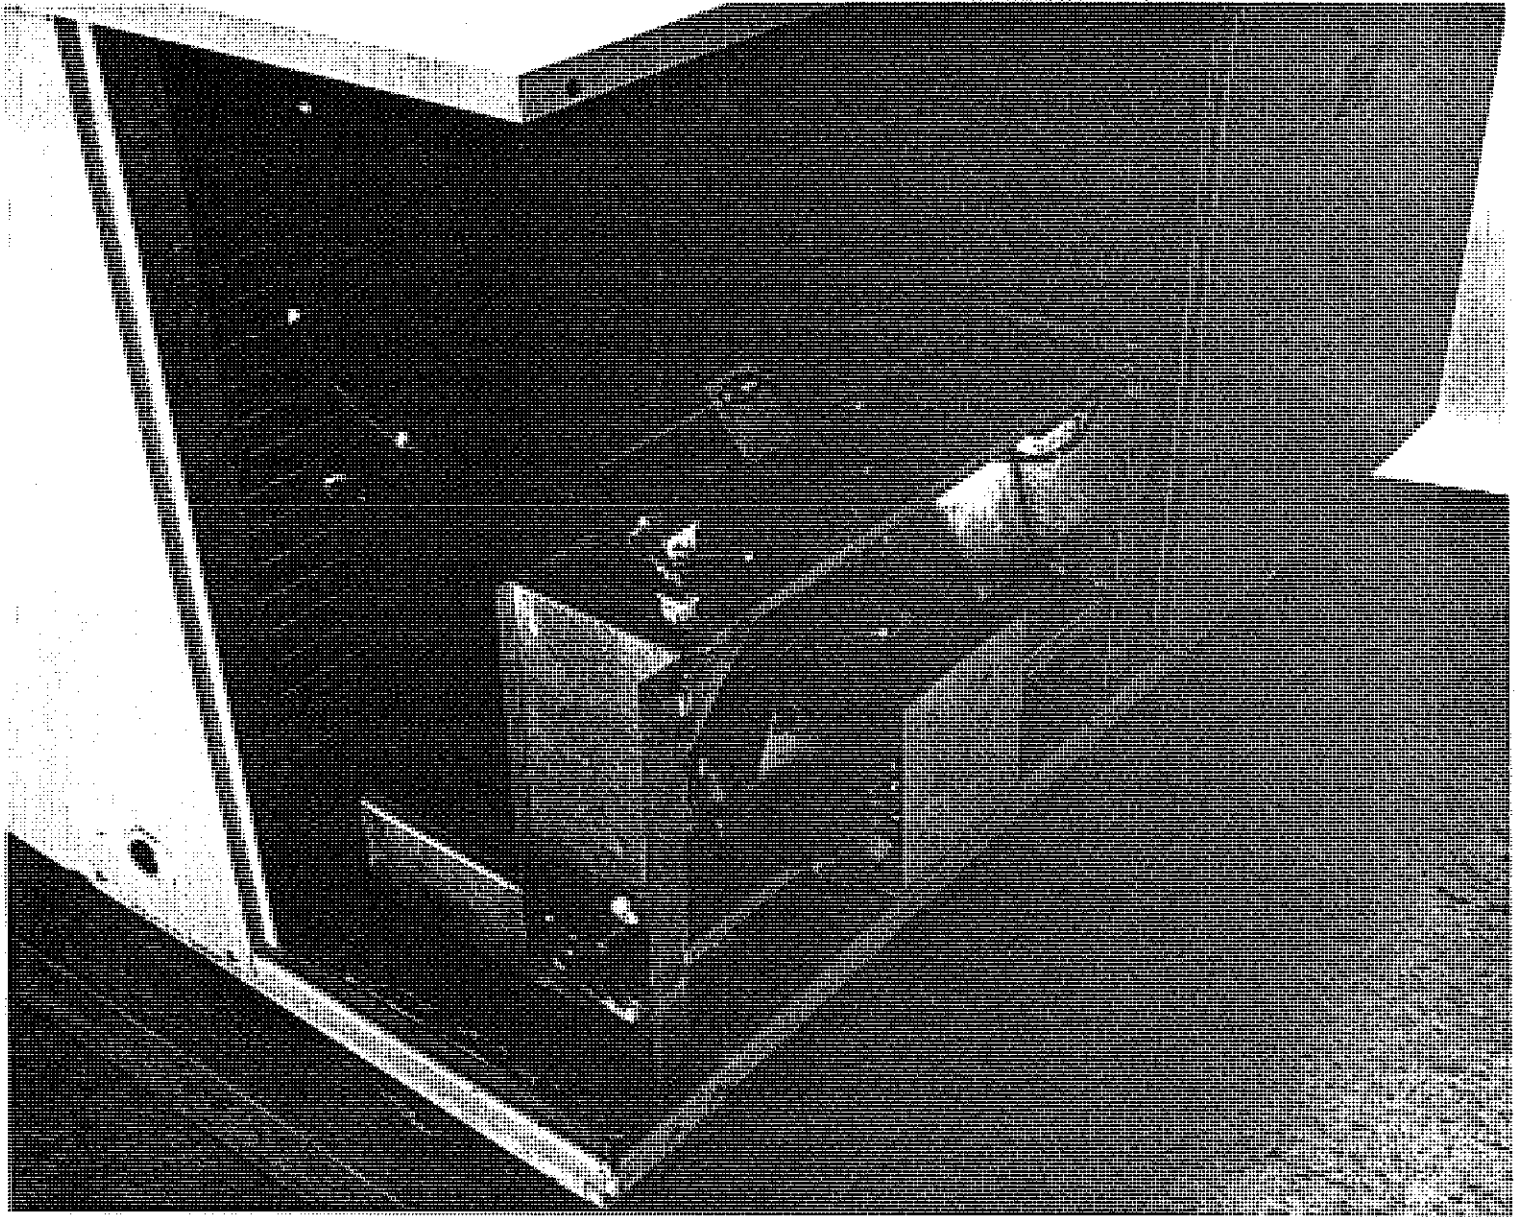

Figure 5.
7. Install the return/outside damper subassembly in the unit by placing it over the return air opening flange flush with the unit base pan. (Figure 5)
8. Connect the male six pin connector on the end of the harness into the mating female receptacle on top of the damper subassembly. (Figure 5)